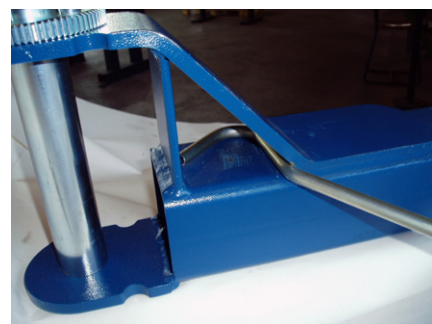

Figure 26
3. Hit the clamp with a tool until it bends. (Figure 26)